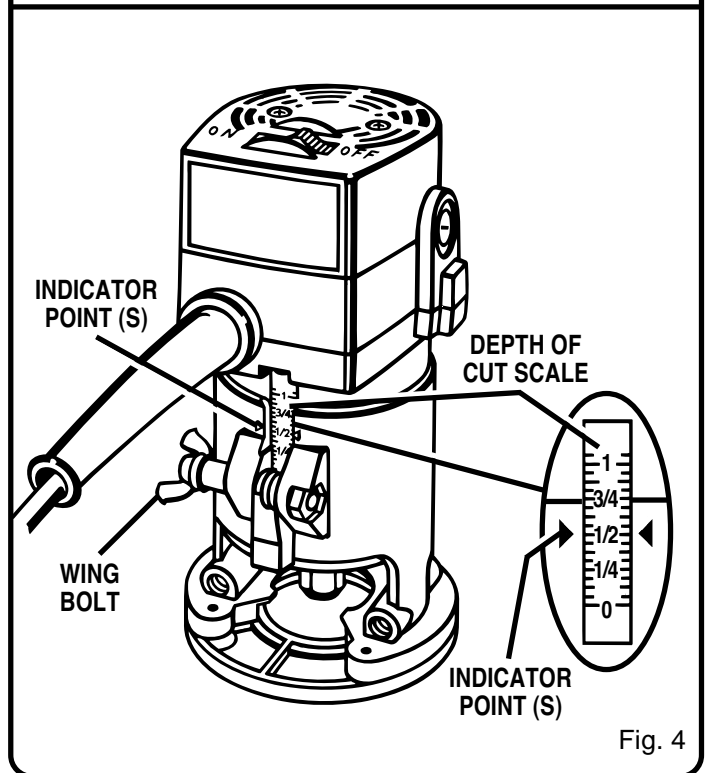

Fig. 4
See Figure 4.
2. Loosen the wing bolt and move the base until the tip of cutter touches the work surface. The depth of cut is zero at this point. See Figure 4.